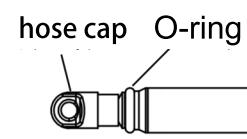

Fig.1
- ① Tool required
- ② Use homing bead to help hose to thread through the inner tubes of frame (Fig. 1)